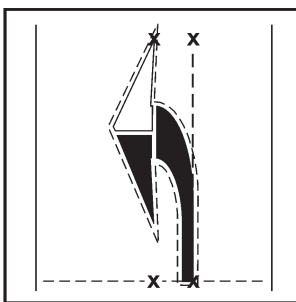

Figure 54
- Remove the liner from the bottom part of the top section of the arrow and place it against the center section of the arrow (see Figure 54).